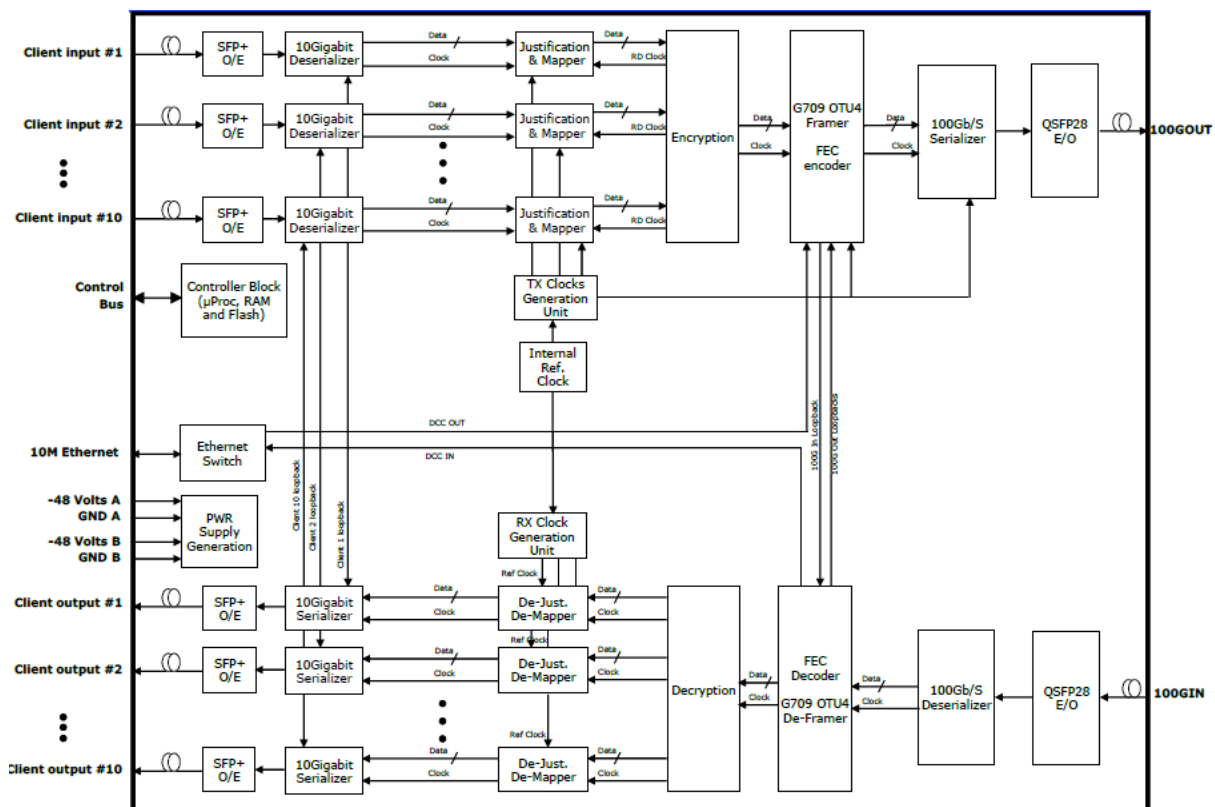

Figure 2: Block diagram.
The block diagram for the Encryption module is given in Figure 2.
- Client Signal Fail indication: a bit in the mapping frame is set in case one of the following conditions are present on the incoming signal (see Figure 2)